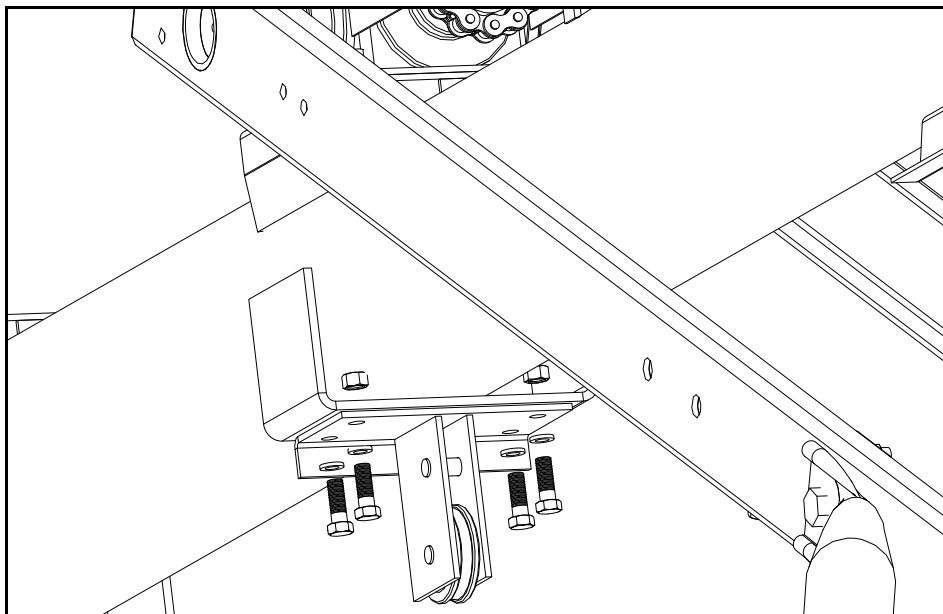

Figure 3.20 Return Assembly
4. Attach the cable return assembly to the tube with four $\frac{7}{16}$ " x 1- $\frac{1}{4}$ " bolts, track washers, and locknuts (Figure 3.20).